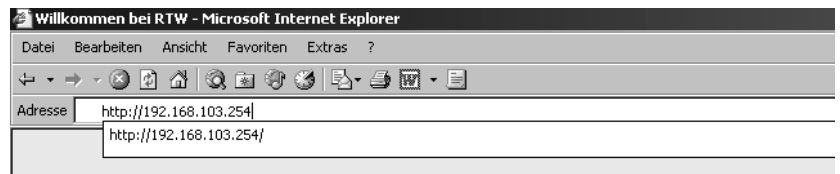

Fig. 8-30: Entering the IP-Address
1. Start your internet browser and enter `http://192.168.103.254` in the address field (see Fig. 8-30) followed by the hit of the return (Enter) key.